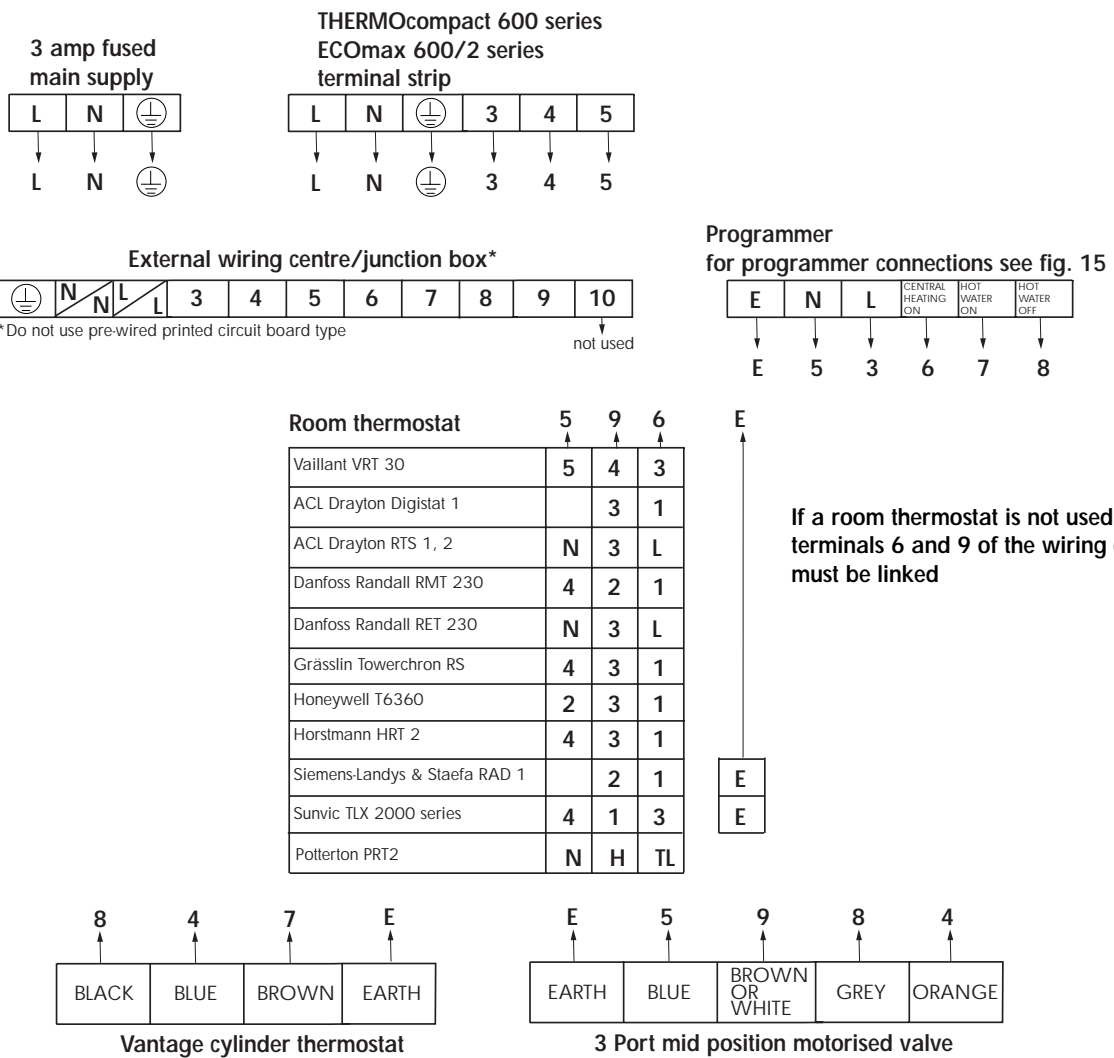

Fig. 14
- Provide a wiring centre adjacent to the VANTAGE cylinder to make the electrical connections (see fig.14).